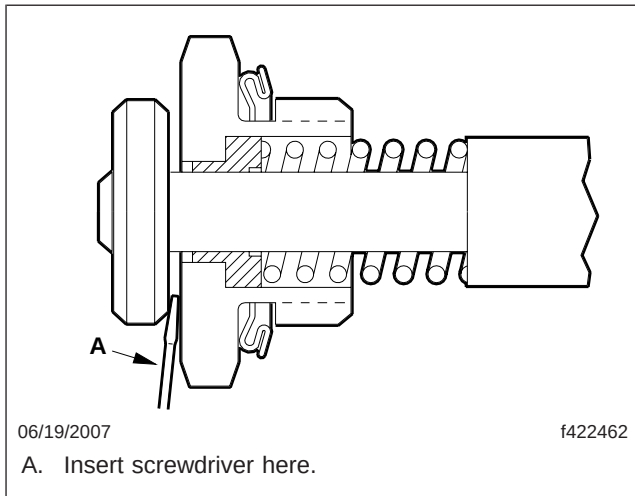

Fig. 2, Disengaging the Pull-Pawl
4. Using a screwdriver or an equivalent tool, pry the pawl button out about 1/32 inch (0.8 mm). See Fig. 2.
- 6.4 Using a screwdriver or an equivalent tool, pry the pawl button out at least 1/32 inch (0.8 mm). See Fig. 2. Wedge the tool in place.
- 7.6 Using a screwdriver or an equivalent tool, pry the pawl button out about 1/32 inch (0.8 mm). See **Fig. 2**. Wedge the tool in place.